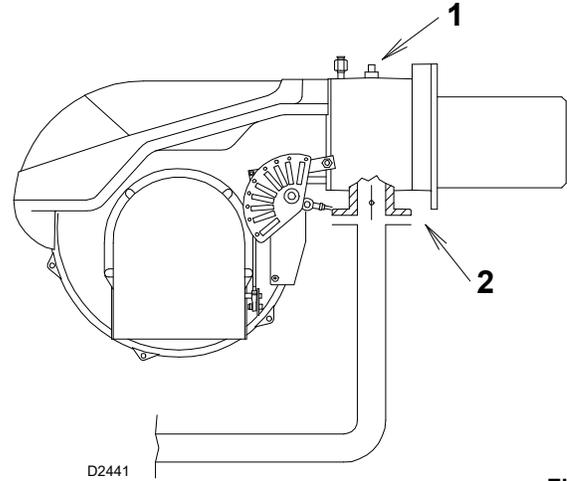

Fig. 21
$\Delta p1$ - Gas pressure is measured at the test point 1)(Fig. 21), with:
$\Delta p2$ - Load loss at gas butterfly valve 2)(Fig. 21) with maximum opening: 90°.
- subtract the combustion chamber pressure from the gas pressure measured at test point 1)(Fig. 21);
- Gas pressure at test point 1)(Fig. 21) = 4.09" WC